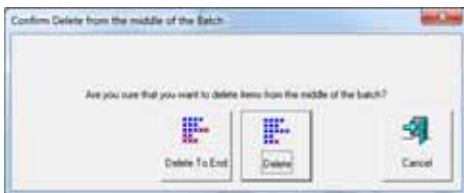

Figure 15: Confirm delete
- If the **Allow Delete** parameter is set to **Delete To End Of Batch**, you can also choose a document thumbnail and delete all the documents scanned after the selected document. When the **Delete** button is pressed, the Confirm Delete window (Figure 15) will appear.